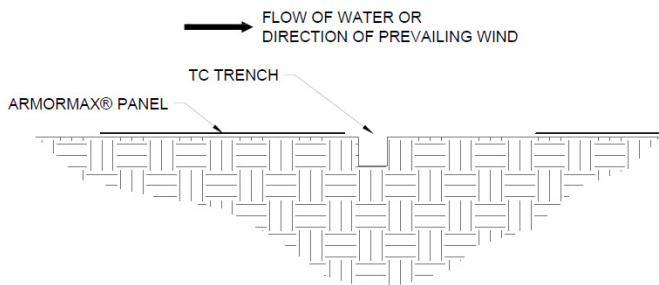
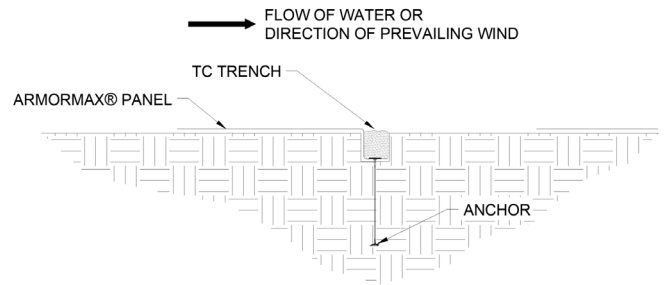

Figure 16: Terminal Channel (TC) Trench Alignment
Figure 17: Terminal Channel (TC) Trench Placement
14. Lay the HPTRM panel on the upstream side of the TC trench (Figure 16). Place the panel edge in the TC trench, ensuring full coverage along the bottom of the entire TC trench with the **PROPEX** Armormax (Figure 17).
15. Secure **PROPEX** Armormax with pins and anchors in the TC trench. Suggested placement of pins and anchors for the TC trench is along the bottom of the trench with pins on 12 in (300 mm) centers in between anchors on 5 ft (1.5 m) centers (Figure 17).